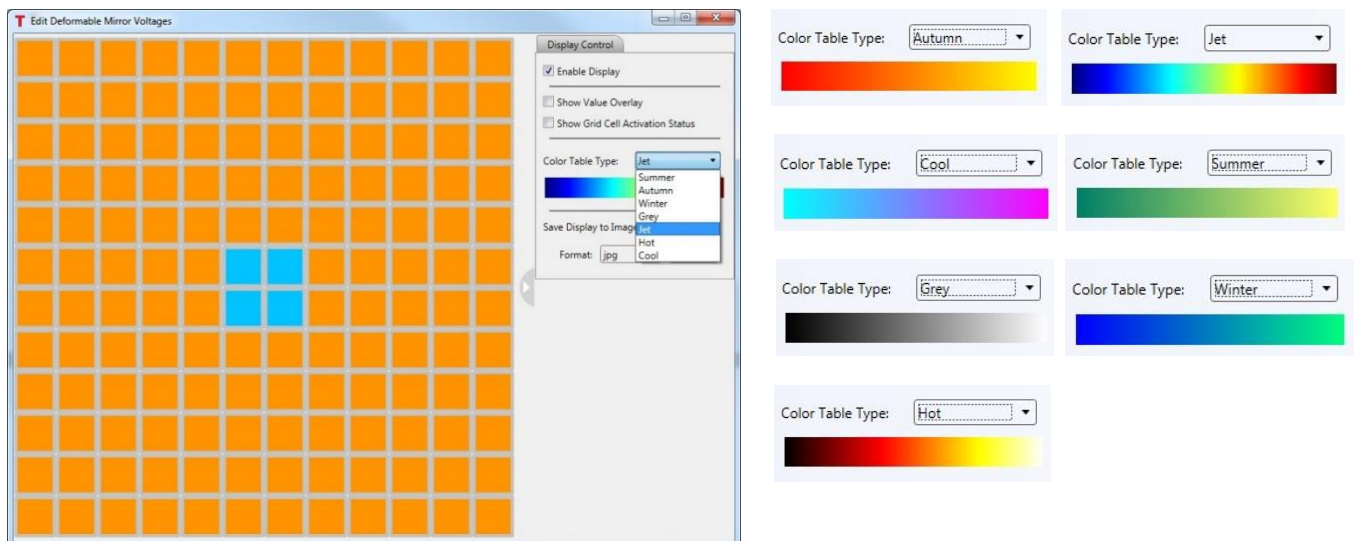

Figure 158 Color table options display in a dropdown menu, and the color bars for each option.
Color Table Type - The dropdown menu shown in Figure 158 shows the seven (7) color schemes available for representing the DM mirror segment values.